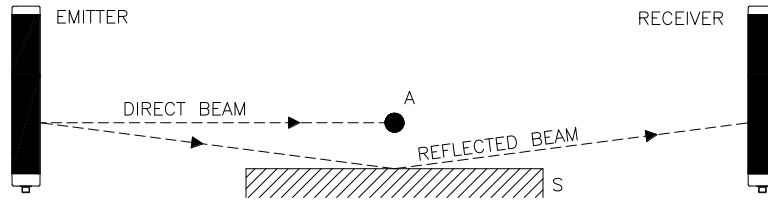

Figure 8 - Reflective surfaces
**⚠** The presence of reflective surfaces close to the light curtain may cause occasional reflections that prevent sensing. Referring to Figure 8, object A is not detected due to surface S that, reflecting the beam, closes the optical path between the Emitter and Receiver. Therefore, a minimum distance  $d$  must be maintained between any reflecting surfaces and the guarded area. The minimum distance  $d$  must be calculated according to the distance  $l$  between the Emitter and Receiver and taking into account that the angle of projection and reception is  $\pm 5^\circ$ .